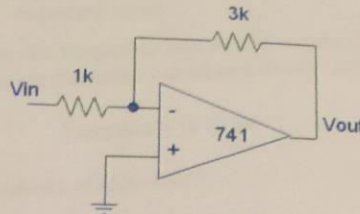
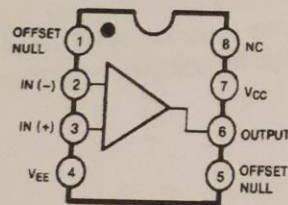
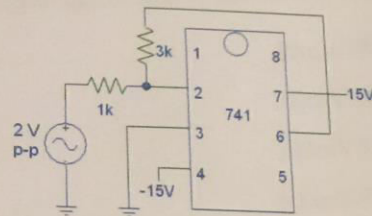

Figure 1: Op-Amp Circuit with a Fixed Gain
Figure 2:
Figure 3:
1. Consider the op-amp circuit in Figure 1. Compute the ratio V_{out}/V_{in} and record your values for V_{in} , V_{out} , and V_{out}/V_{in} in the spaces provided at the bottom of the page. The ratio V_{out}/V_{in} is called the *gain*. Next, simulate this circuit in PSpice with a 2V (peak-to-peak) 1kHz source for V_{in} and compute the gain. For this simulation, the ideal OPAMP will suffice. (You will need to place a large resistor, say 100k or 1M, connecting V_{out} to ground.) Record your values below.
Construct the same circuit using a breadboard. The pin layout of the LM741 op-amp is shown in Figure 2. To wire the circuit as shown in the symbolic diagram of Figure 1, follow the wiring diagram shown in Figure 3. The 15V voltage source will come from the variable voltage source on the breadboard. The 1V (amplitude) sine wave will come from the function generator (the frequency can be set to 1kHz).
Once the circuit is wired as shown in Figure 3, connect a probe from CH1 on the oscilloscope to the input voltage (coming from the function generator). Connect a second probe from CH2 on the oscilloscope to the output voltage (pin 6 of the op-amp). Display both readings on the oscilloscope. Record the peak-to-peak voltages below and compute the gain.